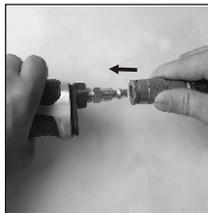

Figure 6
6. Connect air supply hose to the air hammer (A). Set the air pressure at 90 PSI. (See Figure 6)